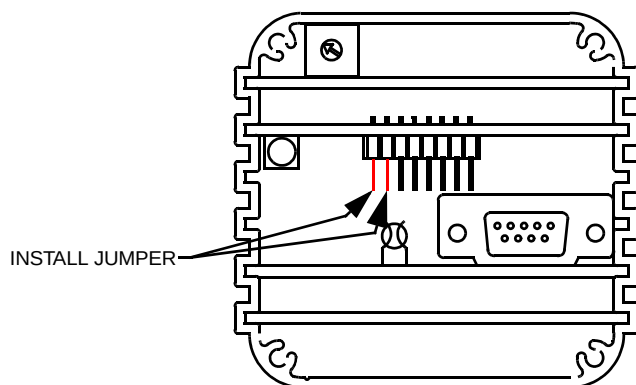

Figure 7-1: Jumper Installation Location (Cover Removed)
5. Connect a jumper wire to the pins as shown in Figure 7-1.